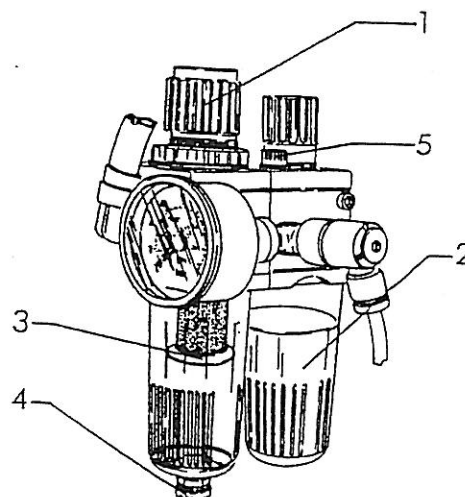

Fig. 13.5.1
- Lift knob 1 fig. 13.5.1 and rotate in a clockwise direction to increase or in a clockwise direction to decrease pressure.
- unscrew oil tank 2 fig. 13.5.1;
- unscrew the filter and replace 3 fig. 13.5.1.